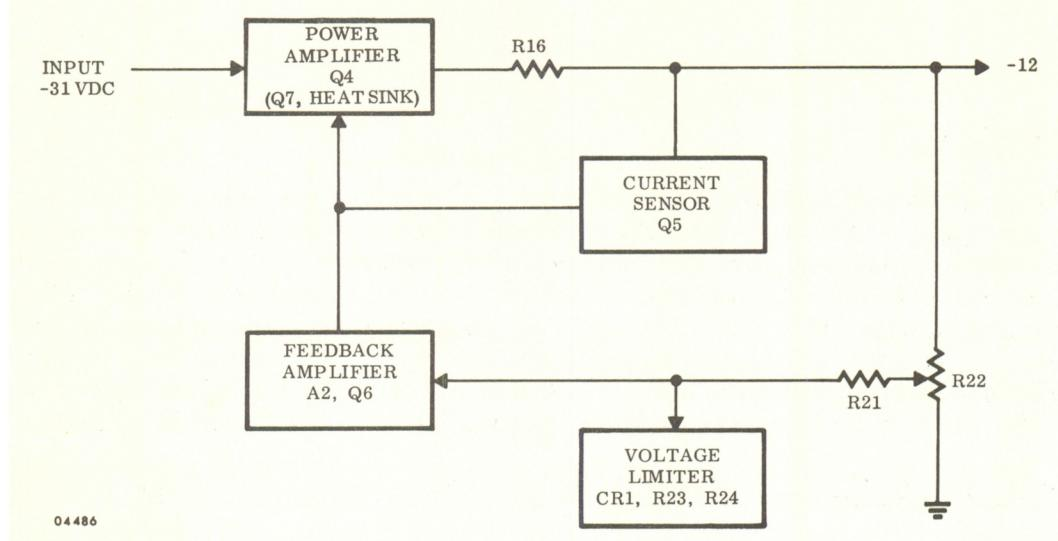

Figure 4.5-2. -27 VDC and -12 VDC Power Supply Regulators,
4.5-4 The -27 vdc and -12 vdc power supply regulators, shown in Figure 4.5-2, are two assemblies mounted on one printed circuit card. Although the assemblies are identical, the reference designations are different; therefore, only the -12 vdc portion will be referred to.